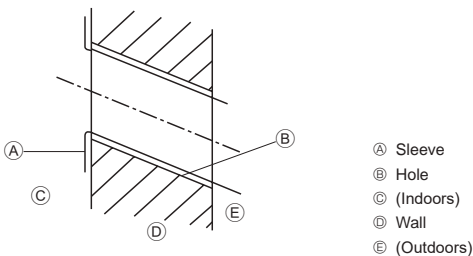

Fig. 3-3
- Ⓐ Mount board ①
3.2.2. Drilling the piping hole (Fig. 3-3)